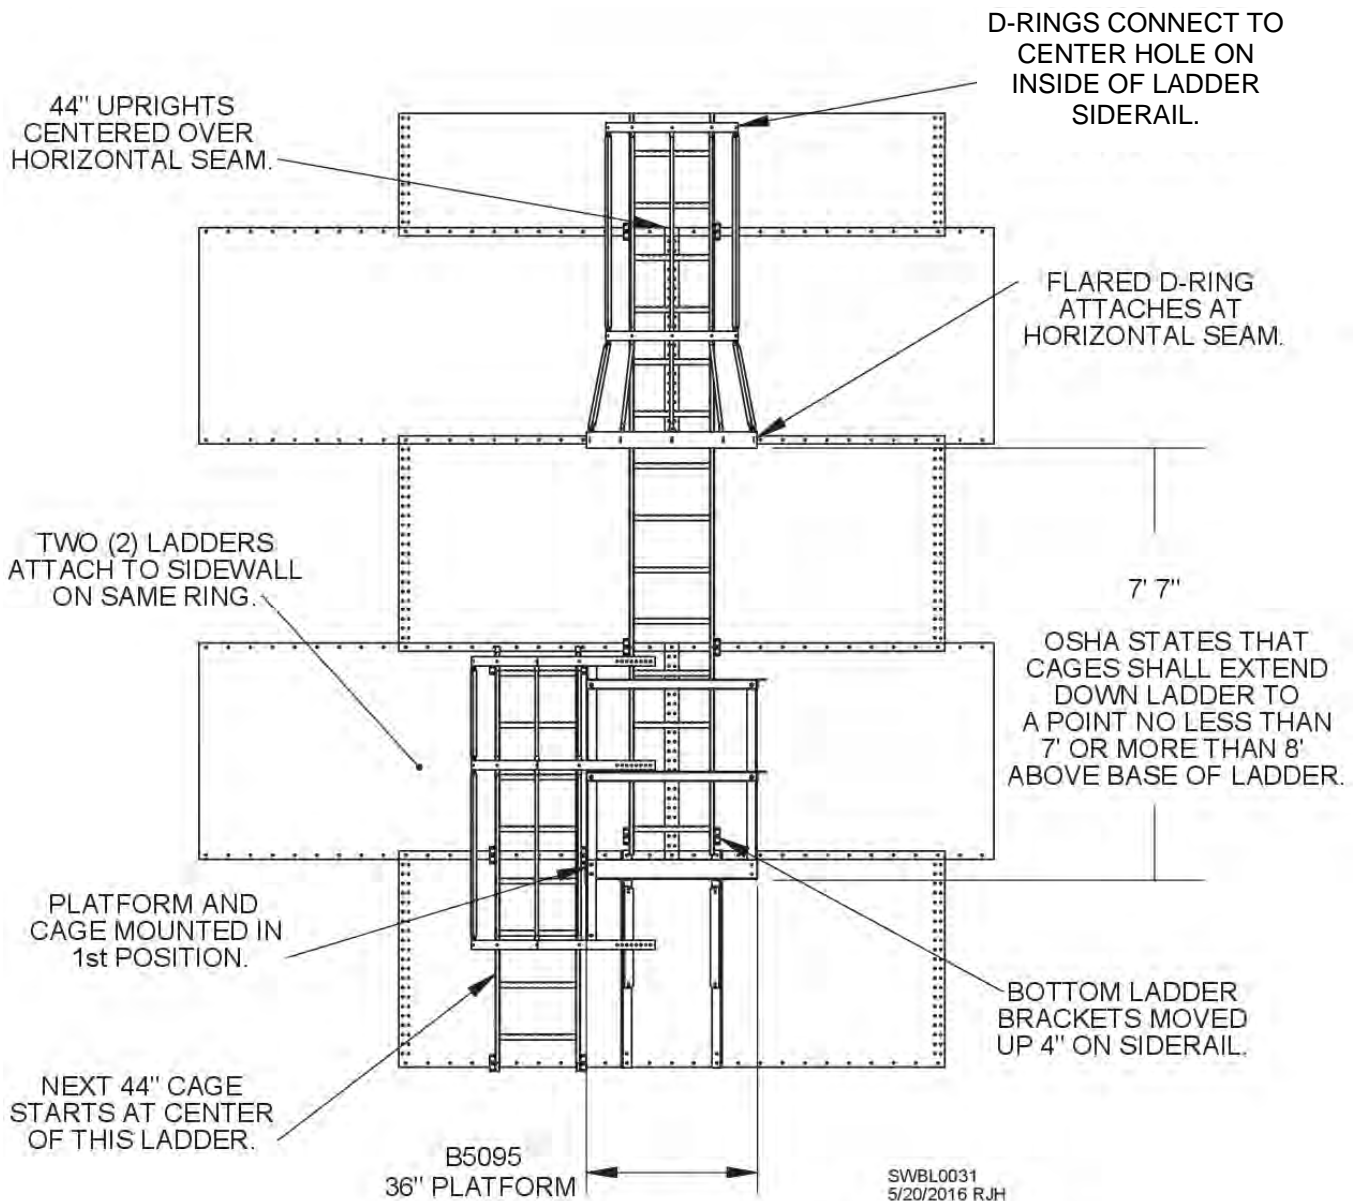
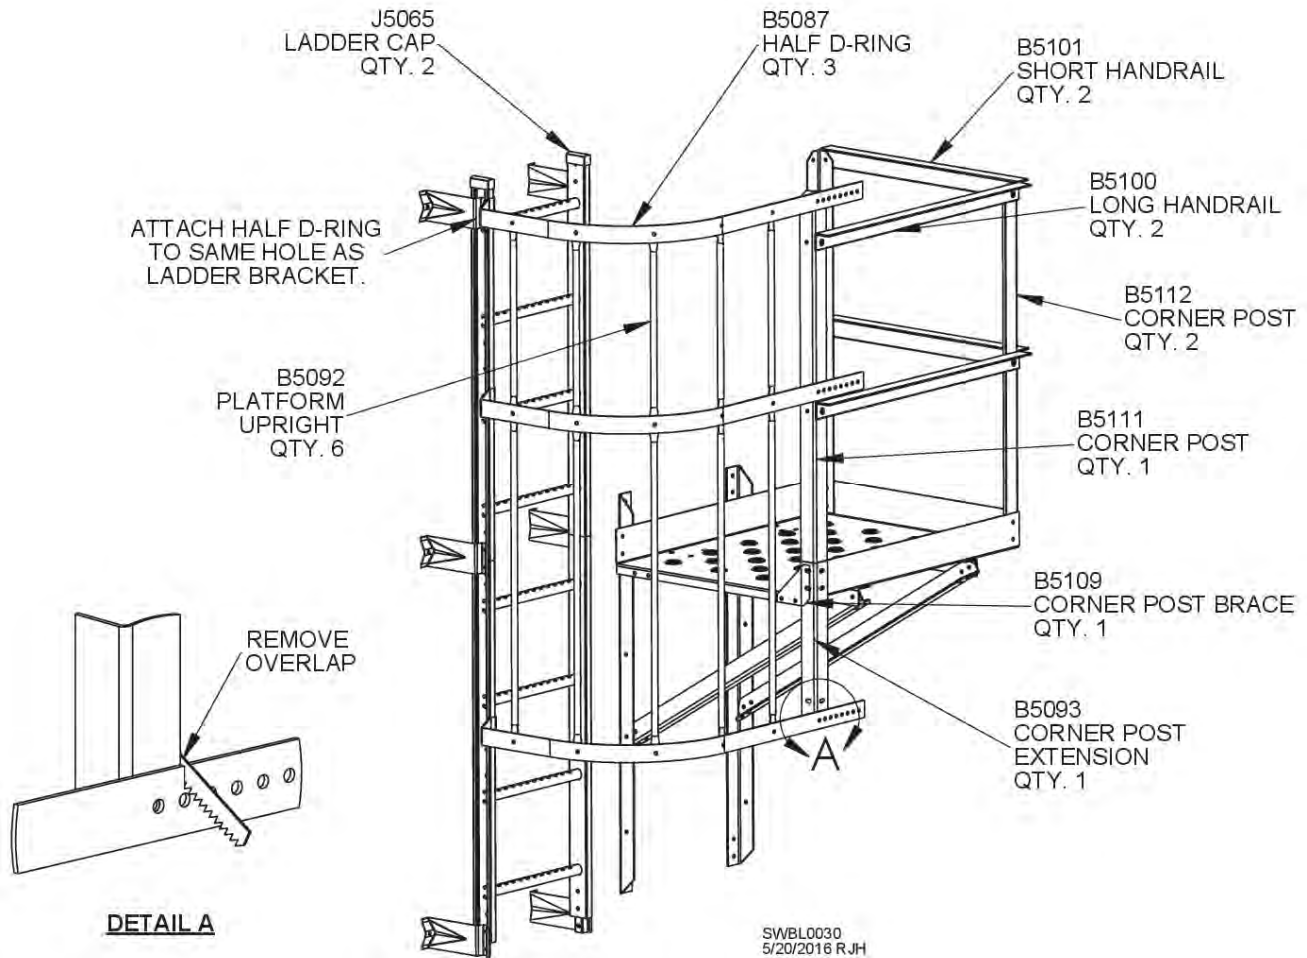

Fig. 17
Fig. 18
Fig. 17 shows where flared D-ring should be attached in relation to landing platform. When attached correctly, flared D-ring should be two (2) sidewall rings above landing platform. **Landing platform must be attached to sidewall in 1st position.** This will ensure OSHA standards are met, as well as ease erection of ladder and cages. Two ladders attach to sidewall on same ring at landing platform location. Remember that at top and bottom of each ladder assembly, sidewall brackets need to be moved either up or down 4" to avoid interference with roof sheets, landing platform brackets, concrete and ladder caps.
Attach 36" landing platform to sidewall directly under upper ladder (not shown). **Mount landing platform in 1st position.** See Fig. 17. Attach 44" ladder section to sidewall ring above platform. Fasten corner post extension, (B5093) to bottom of open-faced corner post B5111 as shown in Fig. 18. Note that corner post B5111 is slightly longer than B5112 posts. Placement is critical.
Attach half D-rings to inside of ladder siderail and fasten them to corner post B5111 and corner post extension, B5093. Connect safety cage uprights to half D-rings with 3/8" hardware and tighten. Slide ladder caps over siderails of top ladder section. See Fig. 18. Also, remove half D-ring overlaps as shown in Detail A to ensure smooth, snag-free edges.